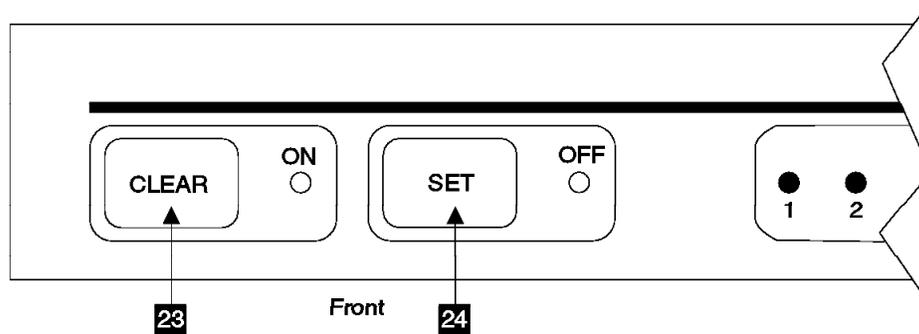

Figure 253. Modem Expander Switches and Indicators (S007486I)
- a. Go to the front of the modem expander and locate the CLEAR **23** [Figure 253] and SET **24** switches.